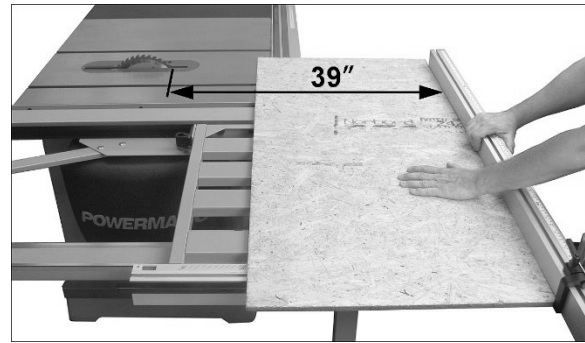

Figure 9-1 (Blade guard removed for clarity only, install guard before operating saw.)
With fence in front position, cutting capacity is 39-inches. See Figure 9-1.
5. Hold panel securely against fence with one hand, while pushing the fence with the other. See Figure 9-1.